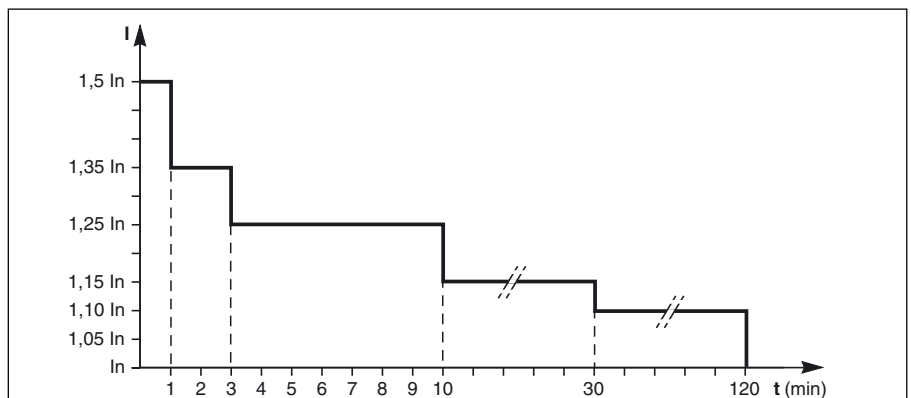

Fig. 14
▶ in the event of a small but extended overload (i.e. a continuous level of power exceeding the full rated load), the inverter will continue to supply power for a period depending on the magnitude of the overload (10 minutes for a 125% overload, 1 minute for a 150% overload). See the overload curve in figure 14;
- ▷ light ④ goes off,
- ▷ light ③ shines green,
- ▶ if the overload is less than $1.65 I_n$, the remaining inverters support the overload (see curve in figure 14), and the load is transferred to the bypass AC source;
- ▷ the light ④ goes off,
- ▷ the light ③ goes on and turns green,